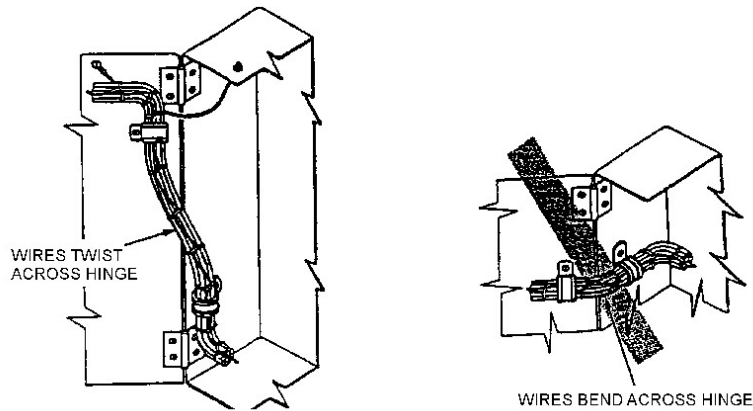

Figure 13. Support at Hinged Areas
installed to twist instead of bending across hinges. Cables in the vicinity of line replaceable units (LRU) and weapon replaceable assemblies (WRA) shall be protected against damage caused by flexing, pulling, abrasion, and other effects of frequent removal and replacement of equipment (Figure 13).
(1) For harness bundles over 3/4 inch, Teflon sheet may be used to provide chafing protection (refer to Figure 13).